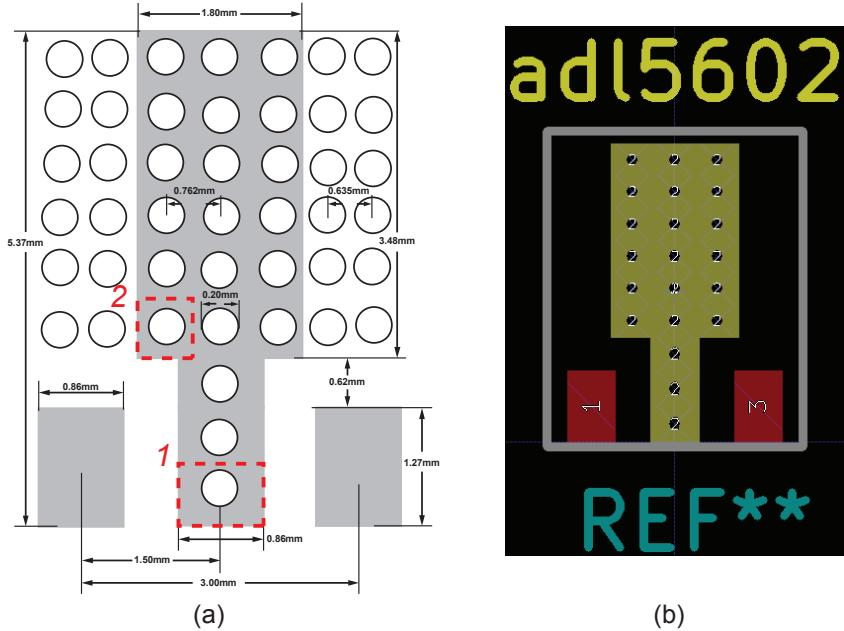

Figure 41: (a) Datasheet recommended land pattern for ADL5602 IC. Source: ADL5602 datasheet. (b) Footprint in KiCad.
The footprint of the ADL5602 IC will follow its recommended land pattern in its datasheet. It is copied in Fig. 41-a for easy reference. The large exposed pad in the center and the many vias serve two purposes: 1) providing a low-impedance electrical path to the ground plane underneath; 2) providing a low thermal impedance path so that the heat generated in the IC could be well dissipated.
Pad 1 and 3 are straightforward to generate in KiCad. The creation of pad 2, the large ground pad, requires a little bit of guidance. Our strategy here is to draw each via as a separate pad with rectangular pad area and a circular drill. The complex land pattern consists of two unit cell types, both labeled in Fig. 41-a. Pad type 1
5. The final footprint is shown in Fig. 41-b. A courtyard outline has also been added.